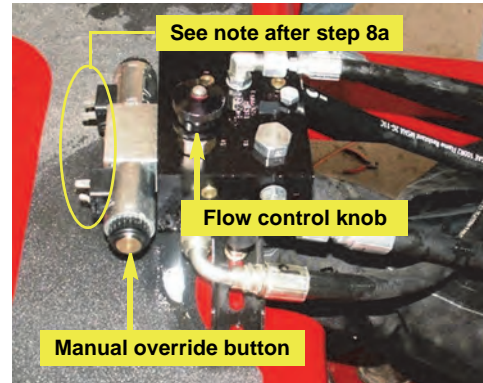

Figure 8: Steering flow control knob and manual override button (D1 installation)
*Figure 8 does not show interface cable **O** connected. Your cable will be connected at this stage.*
- d. Adjust the automated steering oil flow control knob to a starting position of **2** turns from completely closed. To adjust the knob (Figure 8 - D1 shown):
- e. The coils on the hydraulic steering block have manual push button overrides. Push either manual override to move the steering wheels all the way to one extreme (Figure 8).